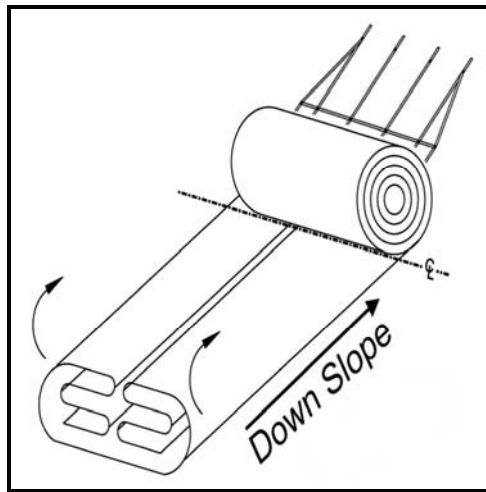

Figure 9. Tank half-rolled.
8. Roll other end to center (Figure 9).